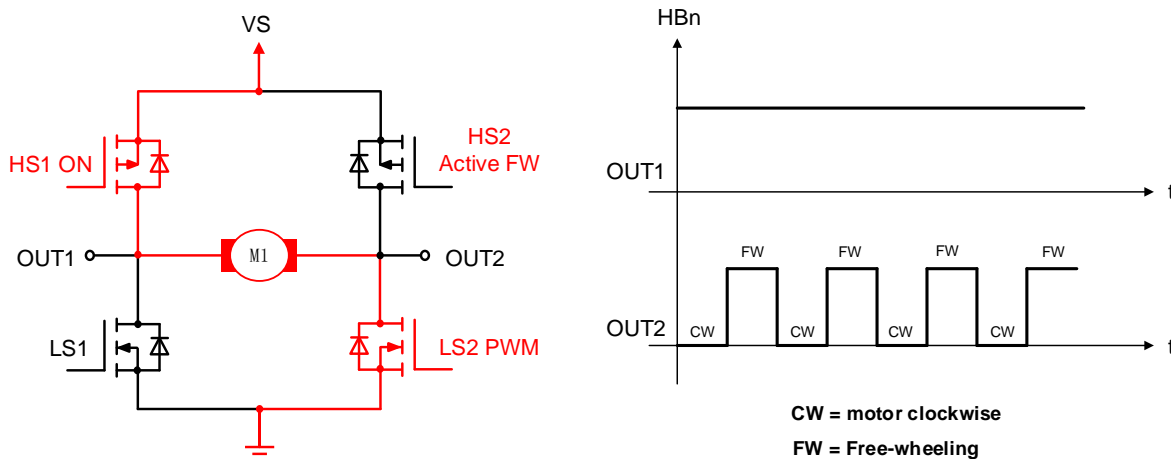

Figure 4. PWM operation on OUT 2
Figure 4 shows an application with OUT1 and OUT2 driving a DC brush motor. With this configuration, HS1 is permanently driven while LS2 is driven in PWM operation. HS2 serves to actively free-wheel (FW) the motor current load, reducing the power dissipation of the device.